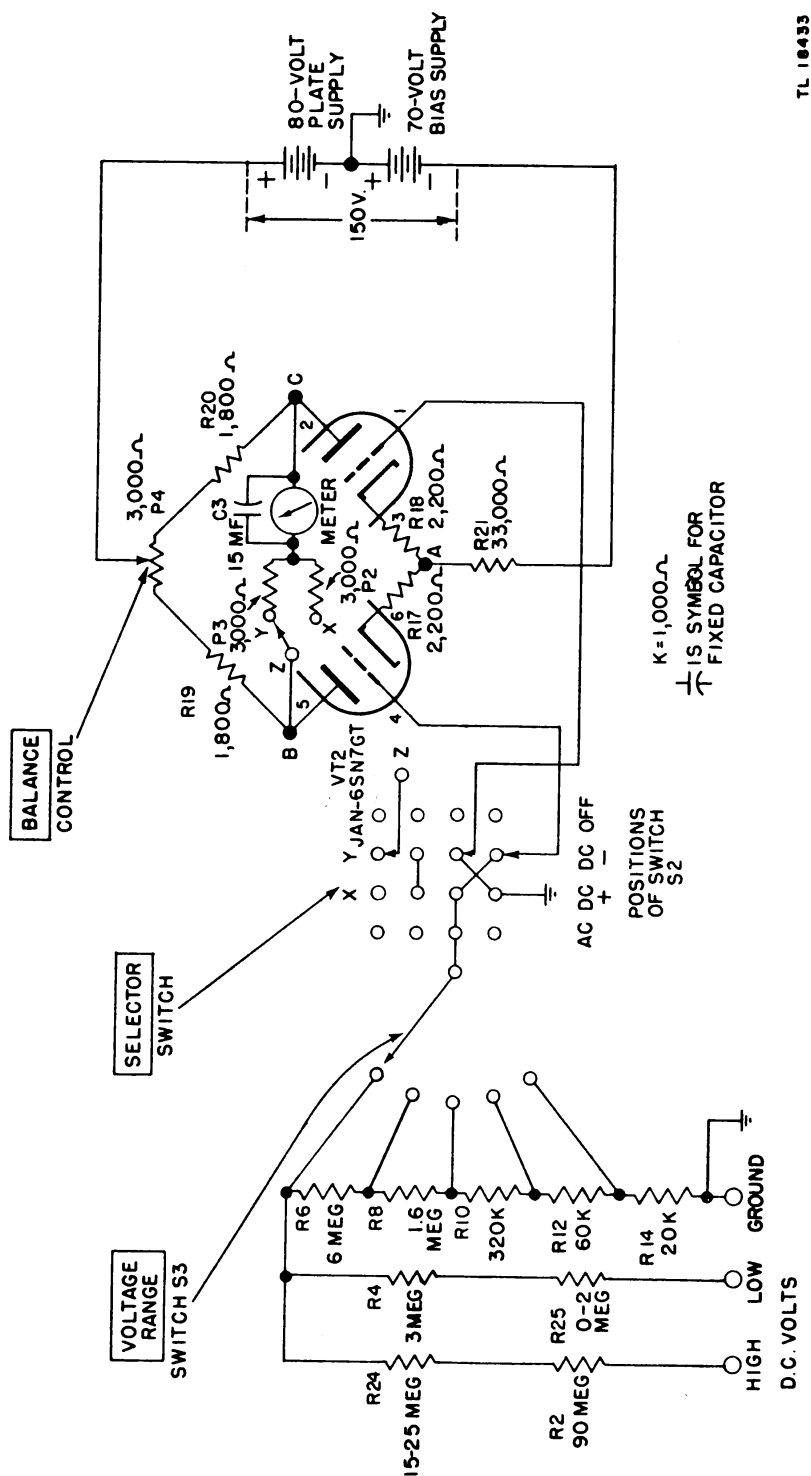

Figure 14. Simplified schematic diagram of d-c measurements circuit.
a. General. The d-c vtvm utilizes a balanced-bridge arrangement. Two triode sections of Tube JAN-6SN7GT, (VT2) serve as part of two legs of the bridge. Figure 14 shows a simplified schematic diagram of the circuit with batteries substituted for the regulated rectifier. Figure 18 shows a complete schematic diagram of the instrument.
(1) When a positive voltage is applied to the grid of the left section of the tube (triode section shown at left side of diagram in figure 14) the internal resistance of the tube decreases, causing an increase of current flow through resistors R21, R17, R19, and part of the balancing potentiometer P4. This increase of current flow produces a more positive potential at point A and a more negative potential at point B. Simultaneously, the more positive potential at point A makes the cathode of the right section of the tube more positive, and decreases the current flow through this section of the tube, through resistors R21, R18, R20, and through the other part of potentiometer P4. This decrease of current flow causes point C to become more positive. Thus, as point B becomes more negative, point C becomes more positive and a current flows through the meter circuit. The amount of current flow produced in this manner is proportional to the applied d-c voltage at the grid of the left section of the tube. Because of the large value of cathode resistor R21 (33,000 ohms), the increase in current flow through the left section of the tube is approximately equal to the decrease in current flow through the right section. This results in a push-pull action on the meter and greater sensitivity is obtained.
(2) The value of the individual cathode resistors R17 and R18 determines the sensitivity of the bridge. The circuit is so designed that the voltage drop across resistor R21 is slightly greater than the voltage of the bias supply (70 volts). This places point A above ground potential and allows resistors R17 and R18 to determine the actual bias on the tubes. The presence of these individual resistors also permits a certain amount of degeneration which increases the stability of the bridge and partially corrects for differences in the operating characteristics of various tubes. The degeneration, in addition, permits a more linear change in plate current with respect to a change in the d-c voltage being measured, and allows a linear d-c scale to be used on the meter. Because of the common connection of resistor R21 to the individual cathode resistors, a large amount of degeneration with its accompanying loss of sensitivity is avoided, even though R21 has a large resistance value.
(3) When 50 volts is applied between D.C. VOLTS LOW and GROUND terminals, a current of 0.000,004,166 amperes (4.166 microamperes) flows through the resistors. With switch S3 set at the 50-volt position, the voltage appearing at the grid will again be equal to this current multiplied by the resistance between the grid of the tube and ground (1.66 volts). This again will cause full scale deflection of the meter, although a different meter scale (0-50 volts) is used.
(4) The same procedure may be used for calculating different input voltages and different settings of the range switch. In each case, however, a full scale deflection of the meter will be caused by the application of $1\frac{2}{3}$ volts to the grid of tube VT2. For intermediate values of voltages, of course, a partial deflection of the pointer on the meter will result.
(5) When the D.C. VOLTS HIGH terminal is used, the resistor values change and a greater voltage drop occurs before the lowered voltage is applied at the grid of the tube. When voltages in excess of 1,000 volts are to be measured, this terminal must be used instead of the D.C. VOLTS LOW terminal.
(6) The exact values of resistors R24 and R25 are determined by the manufacturer when the resistors in the network are initially matched. As the values of these resistors are increased or decreased, the grid voltage used for full-scale deflection is lowered or raised from the $1\frac{2}{3}$ -volt level.
d. Selector Switch. SELECTOR switch S2 reverses the connections to the control grids of the bridge tube as it is rotated from the D.C. + position to the —D.C. position. See figure 14. In the D.C. + position, the circuit operates normally with a positive d-c input voltage. In the —D.C. position, the connections to these grids are reversed and proper operation of the circuit is obtained with a negative d-c input. Another section of this switch selects either potentiometer P2 or P3 in the meter circuit. Other functions of this switch will be explained in paragraph 40.